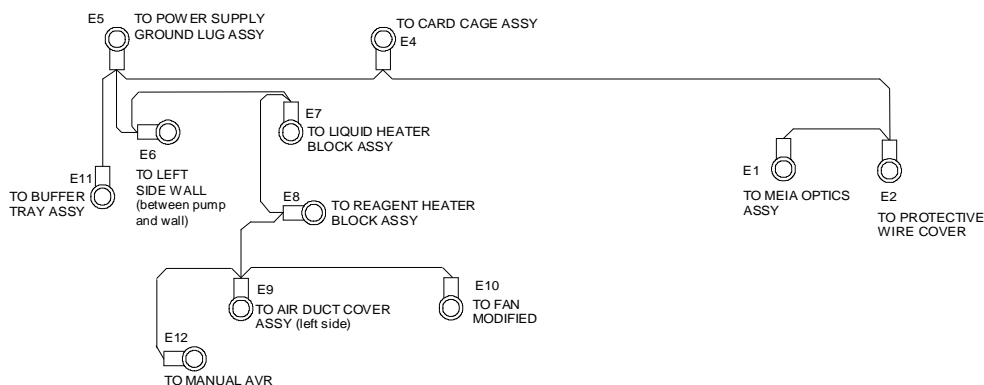

Figure 1: Ground Cable Assembly
1. Install the Ground Cable Assembly. (Figure 1)
5. Attach AVR ground terminal lug E12 to the AVR with screw (Figure 1).
6. Loosely secure the AVR to the Air Duct Cover Assembly with three (3) screws and washers.
10. Attach the left VDE Cover with two (2) screws.
11. Attach the right VDE Cover with three (3) screws.